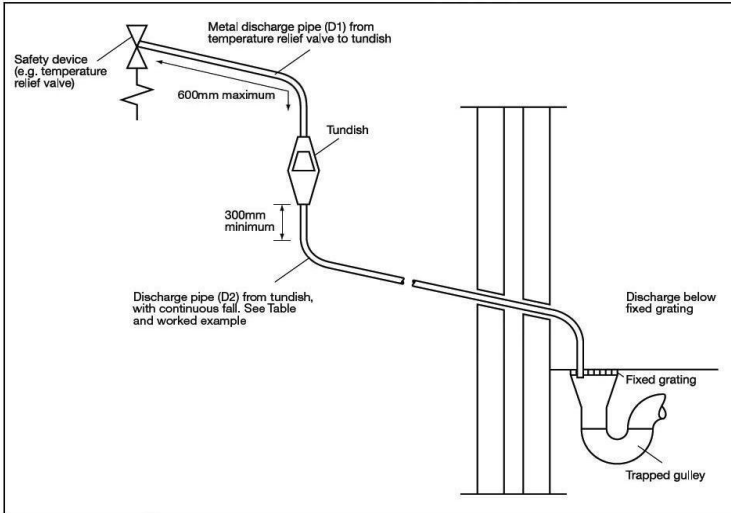

Figure 2: Typical discharge pipe arrangement
The discharge pipe D2 should be at least one pipe size larger than the nominal outlet size of the safety device unless its total equivalent hydraulic resistance exceeds that of a straight pipe 9m long, i.e. for discharge pipes between 9m and 18m the equivalent resistance length should be at least two sizes larger than the nominal outlet size of the safety device; between 18 and 27m at least 3 sizes larger, and so on; bends must be taken into account in calculating the flow resistance. See Figure 2, Table 2 and the worked example.
- The tundish should be vertical, located in the same space as the unvented hot water storage system and be fitted as close as possible to, and lower than, the safety device, with no more than 600mm of pipe between the valve outlet and the tundish (see Figure 2).